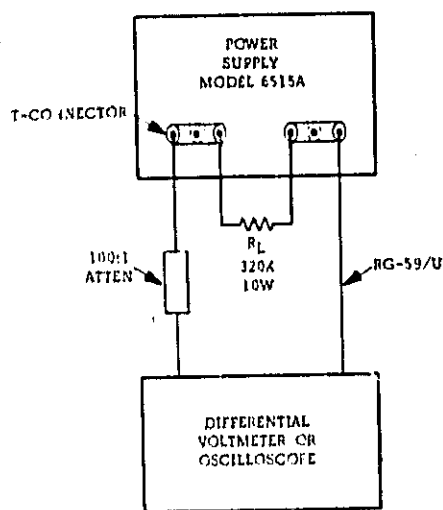

Figure 5-2. Line and Load Regulation, Test Setup
- Connect the differential voltmeter, load resistor, and the attenuator to the power supply as illustrated in Figure 5-2. Load resistance is approximately 320K ohms, 10 watts.
- Connect differential voltmeter, load resistor and attenuator to the power supply as illustrated in Figure 5-2.
- Connect differential voltmeter, load resistor, and attenuator as illustrated in Figure 5-2.
a. Connect the load resistance, attenuator, and differential voltmeter as illustrated in Figure 5-2.